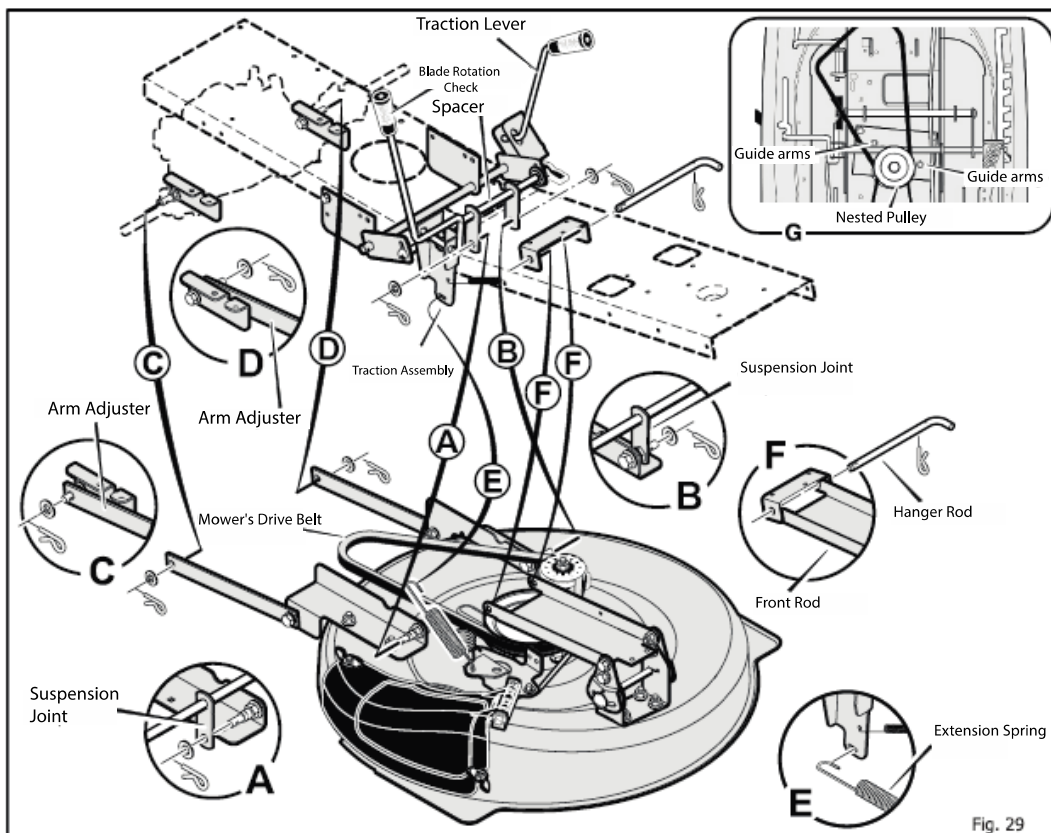

Fig. 29
3. Remove the pins and gaskets from the **rear suspension arms** (Figure 29). See illustrations C and D.